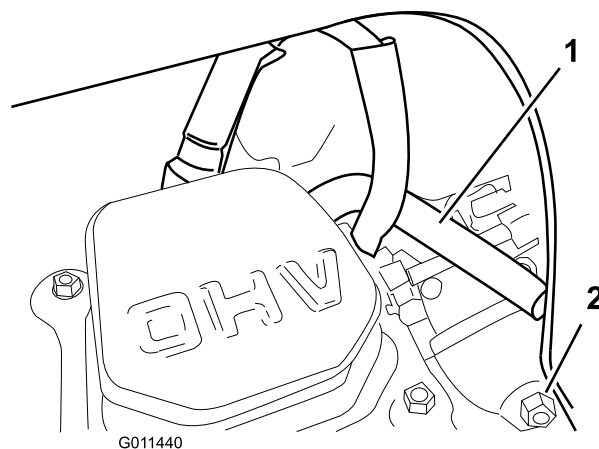

Figure 35
Note: Ensure that the breather tube is routed above the spark plug wire as shown in Figure 35.
6. Drain the fuel in the carburetor through the carburetor drain bolt (Figure 35) into an approved gasoline container.